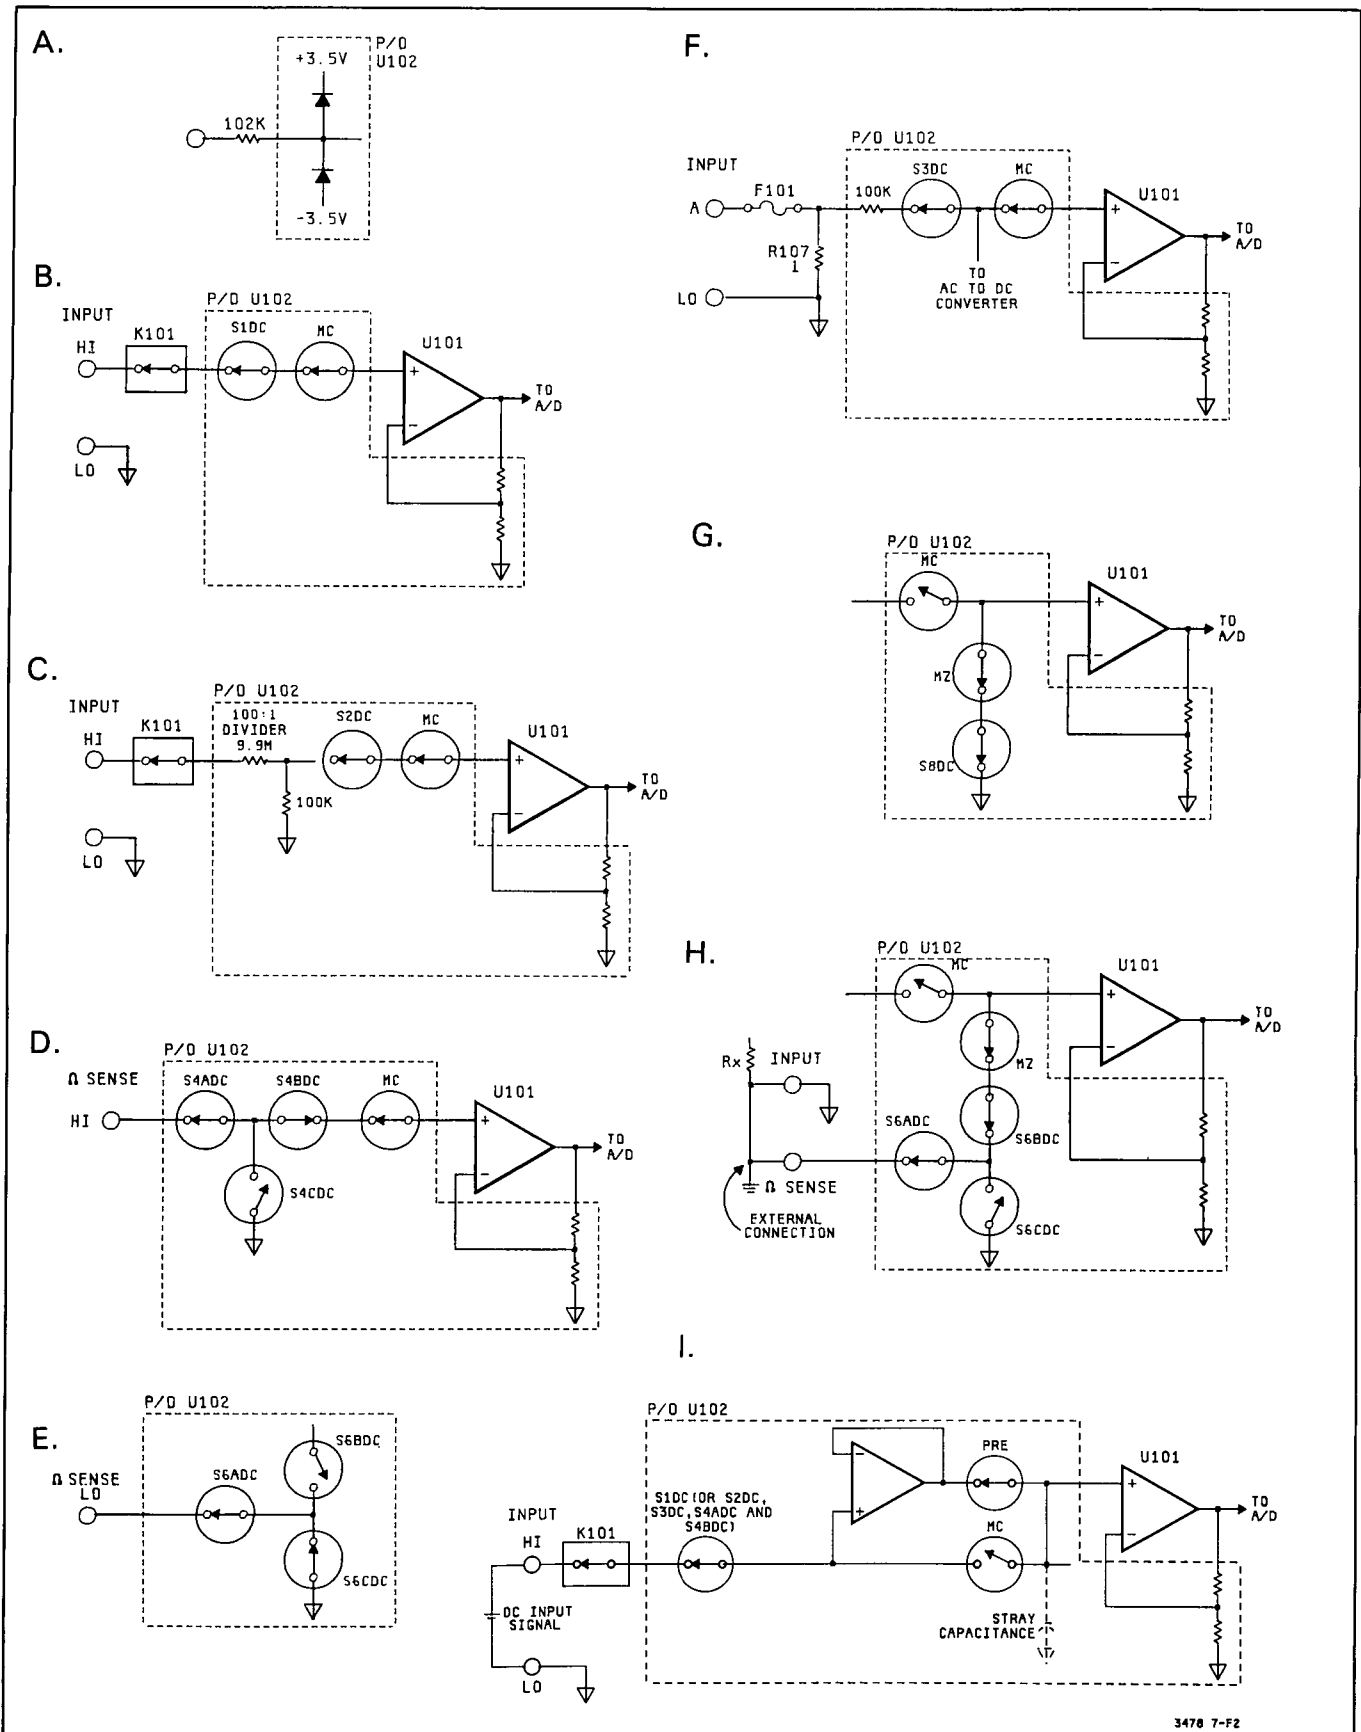

Figure 7-F-2. Simplified Schematic Of The Input Switching Circuitry
b. **Low Voltage Protection.** This circuit consists of diodes connected to the individual input nodes (part of the HI INPUT, LO INPUT, A INPUT Paths, etc.). The diodes on each node are connected (internally in U102) to +3.5V and -3.5V power supplies. If the voltage on a node exceeds either +4.2V or -4.2V, a diode conducts and keeps the level on the node to the $\pm 4.2V$ levels. The difference between the high voltage at the input terminals and the voltage at the input nodes is dropped across the resistors which are in series with the diodes and input terminals (the low pass filter). Figure 7-F-2A shows a typical protection circuit.
7-F-13. Input Switching. The Input Switching Circuitry consists mostly of Relay and MOSFET switches, with most FET switches located in U102. The purposes of the switches are to provide five signal paths to the Input Amplifier and to connect the amplifier for a zero measurement (done in the Autozero Function; see paragraph 7-F-14). The switches are controlled by circuits in U102 which receive their control information from the A/D Controller. The following explains the various input paths. Refer to Figure 7-F-2 and Schematic 1 for the explanation.
a. **Low Voltage Range Input Path (Figure 7-F-2B).** The path consists of K101, R103, R104, R110, and S1DC (S1DC is in U102). The purpose of the path is to connect the HI INPUT Terminal (high input voltage) to the DC/Ohms Input Amplifier. The path is used only in the 30mV through 3V dc volts Ranges and all Ohms Ranges.
b. **High Voltage Range Input Path (Figure 7-F-2C).** The path consists of R110, K102, S2DC (in U102), and a 100:1 divider (9.9M ohm and 100K ohm resistors, RD99 and RD98, in U102). The purpose of the path is to attenuate input voltages by a factor of 100 and to connect the attenuated voltage to the DC/Ohms Input Amplifier. The path is used only in the 30V and 300V dc volts Ranges.
c. **Ohms High Sense Path (Figure 7-F-2D).** This path consists of R105, R106, and S4ADC and S4BDC (S4ADC and S4BDC are in U102). The path connects the HI OHMS SENSE Terminal (high ohms input) to the DC/Ohms Input Amplifier, only when the 3478A is in the 4-Wire Ohms Function. Switch S4CDC (which is also part of the path) is used to connect the junction of S4ADC and S4BDC to ground. Switch S4CDC is closed in all functions except the 4-Wire Ohms Function and shunts any possible voltage on the S4ADC and S4BDC junction to ground.
d. **Ohms Low Sense Path (Figure 7-F-2E).** This path consists of R101, R102, and S6ADC and S6CDC (S6ADC and S6CDC are in U102). The path is used to connect the LO OHMS SENSE Input Terminal (low ohms input) to ground (LO INPUT Terminal), when the 3478A is in the 4-Wire Ohms Function. In the 2-Wire Ohms Function, the low ohms input is the LO INPUT Terminal (which is connected to ground).
e. **Current Input Path (Figure 7-F-2F).** This path includes R107 and S3DC (in U102). The voltage drop across R107 (which is generated by the current being measured) is connected through S3DC to the DC/Ohms Input Amplifier. This path is used only in the DC Current Function.
a. **Autozero (in the DC Volts, DC Current, and 2-Wire Ohms Functions).** In the DC Volts, DC Current, and 2-Wire Ohms Functions, the zero measurement is made with switch MC (measure customer) open, and switch MZ (measure zero) and S8DC closed (see Figure 7-F-2G). Switch S8DC and MZ connects the DC/Ohms Input Amplifier to ground through a 102K ohm resistor. After the zero measurement is made, switch S8DC and MZ opens, and switch MC closes for the input measurement. (Note: MOSFET switches MC, MZ, and S8DC are in U102.)